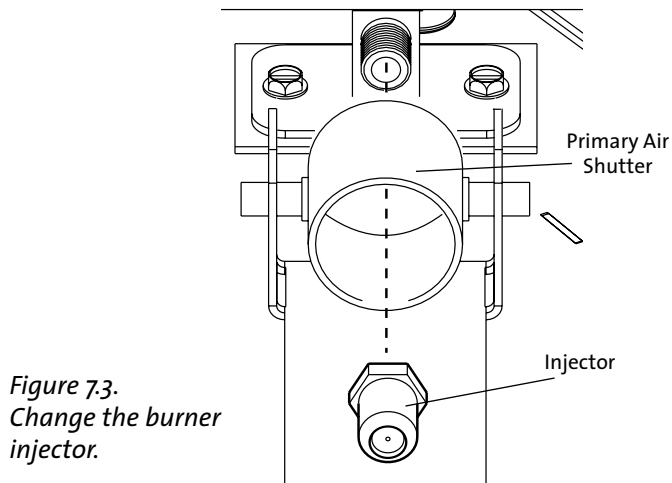

Figure 7.3.
6. Change the Burner Injector. See fig. 7.3. Using a 1/2" open end wrench or deep-well socket remove the burner injector from the brass elbow and replace it with the injector supplied in the conversion kit.